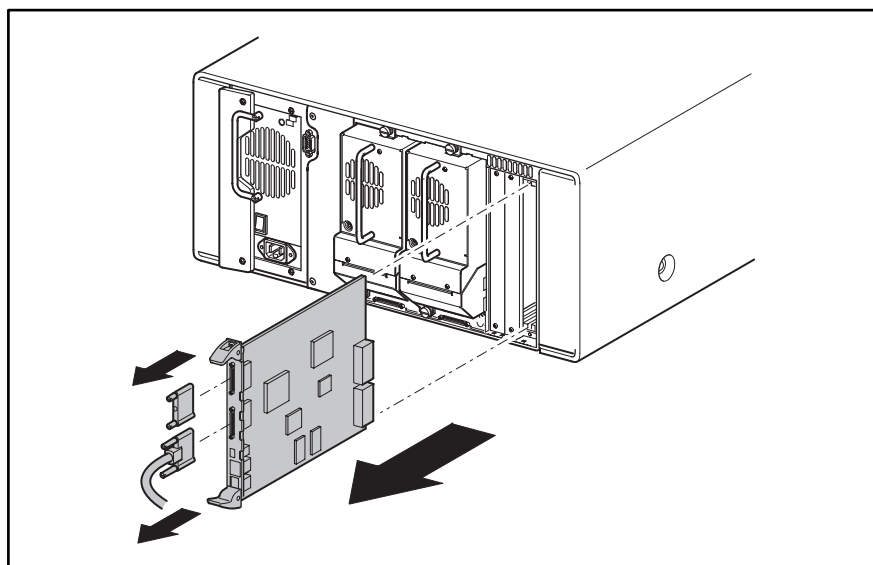

Figure 2-19: Removing the library controller board
4. Completely loosen the two captive hold-down screws on the ejector handles (see Figure 2-19).
5. Disconnect the library controller board by spreading the ejector handles (see Figure 2-19).
1. Position the library controller board with the SCSI connectors toward the top and then align the edges of the board with the slots in the card cage (see Figure 2-19).
3. Tighten the two captive hold-down screws on the ejector handles (see Figure 2-19).
5. Working through the opening behind the right magazine track, remove the 22-pin main power harness connector. Remove the two 4-pin drive power connectors (see Figure 2-19).